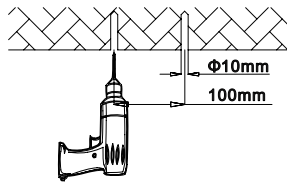

FIGURE 3
1. Mark with a mark pen or sharp tool on the mounting surface and drill (Figure 3).